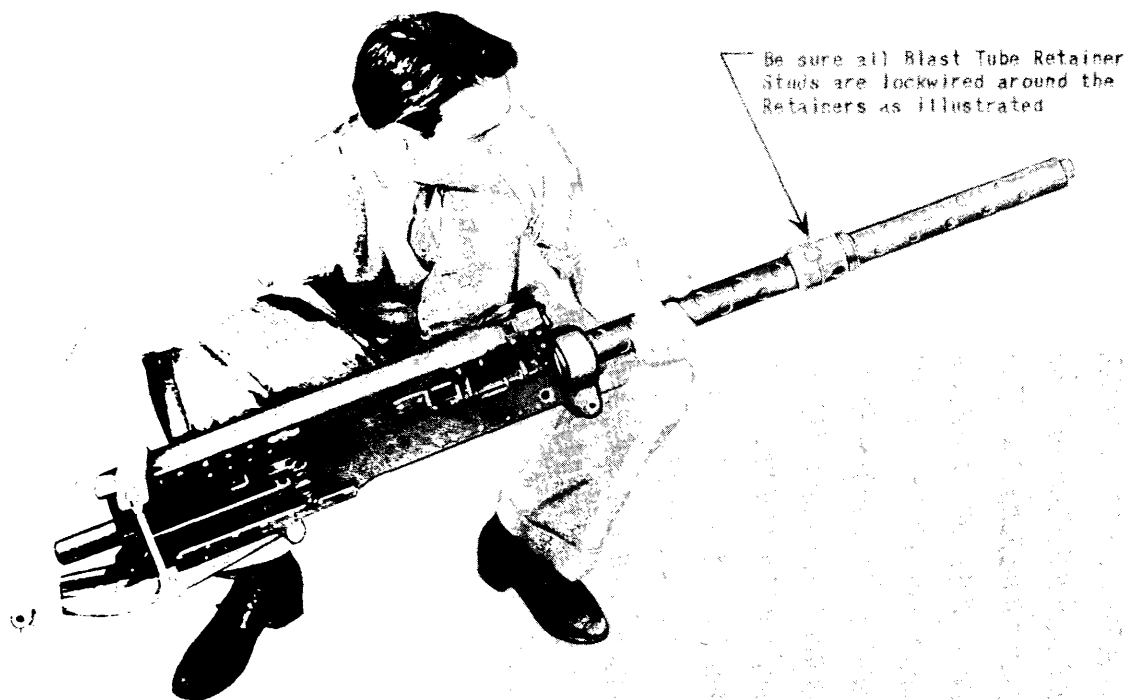

Figure 12 - Proper Method for Lifting Gun Prior to Installation in the Wing
(1) General. - The most desirable position to grasp the gun for insertion into the wing compartment is illustrated in figure 12.